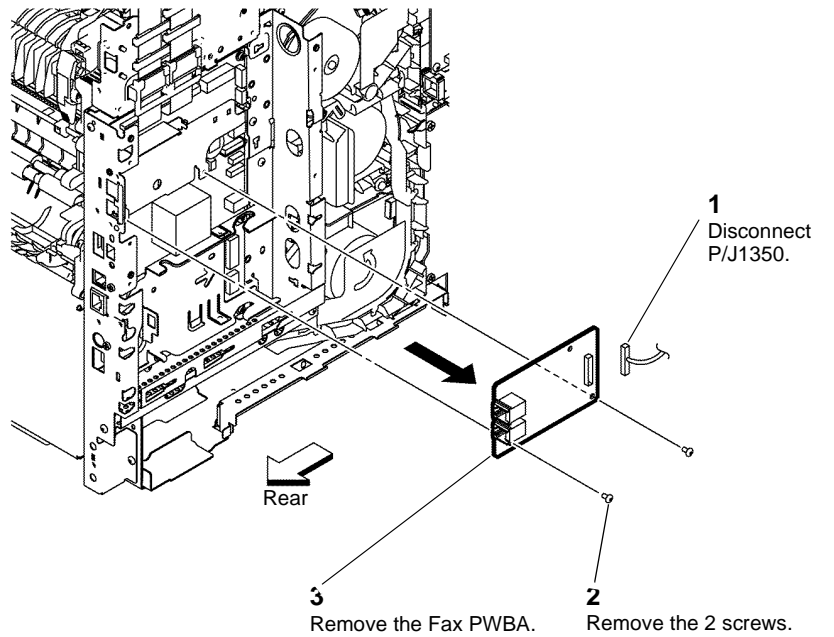

Figure 2 Fax PWBA
3. Remove the Fax PWBA, Figure 2.